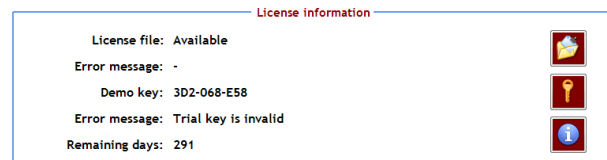
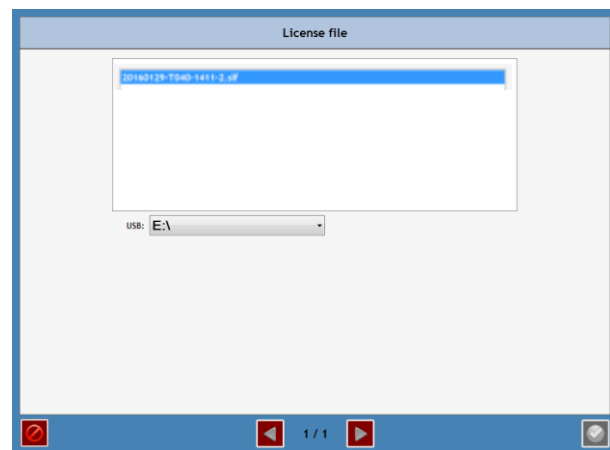
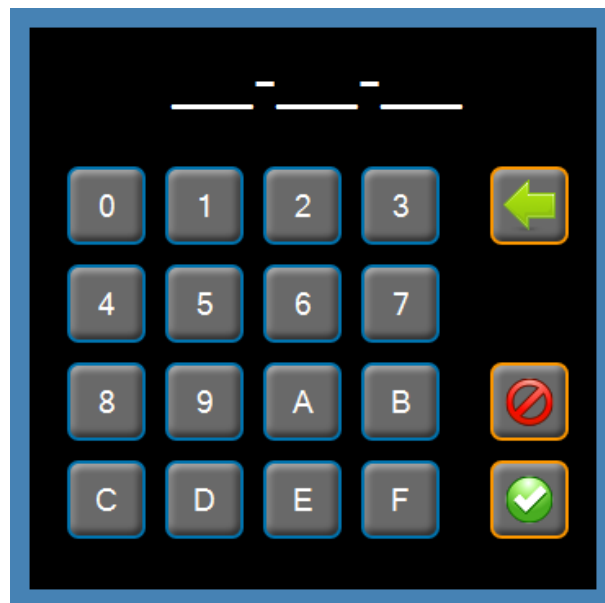

Figure 139 Licence information.
Figure 140 Selecting a licence file.
Figure 141 Entering the demo key.
2. Go to the **Licence information** menu (Figure 139) and tap on the button with the folder symbol on the right-hand side of the menu. This will open a new window (Figure 140),
To enter the **Demo key**, go to the **Licence information** menu (Figure 139) and tap on the button with the key icon. This will open a new screen (Figure 141). Enter the licence code. After entering the code, tap on the confirm symbol. The **Licence information** menu will then indicate whether the code is valid or invalid (Figure 139).
In the **Licence information** menu (Figure 139) tap on the **I** button at bottom right to check which steering types and modules are activated (Figure 142).